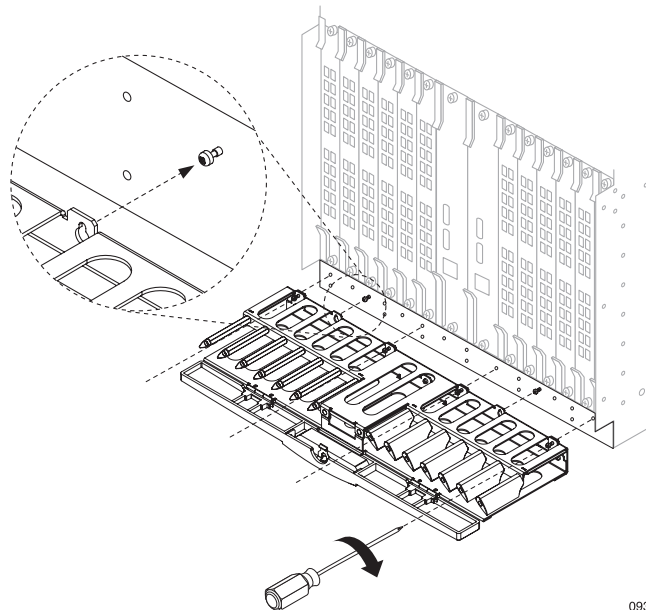

Figure 17 Installing the Cable Tray
1. Position the cable tray so that the two posts on the front of the chassis slide into the two keyhole cutouts on the cable tray and then adjust the position of the cable tray until it rests on the chassis posts; see Figure 17.